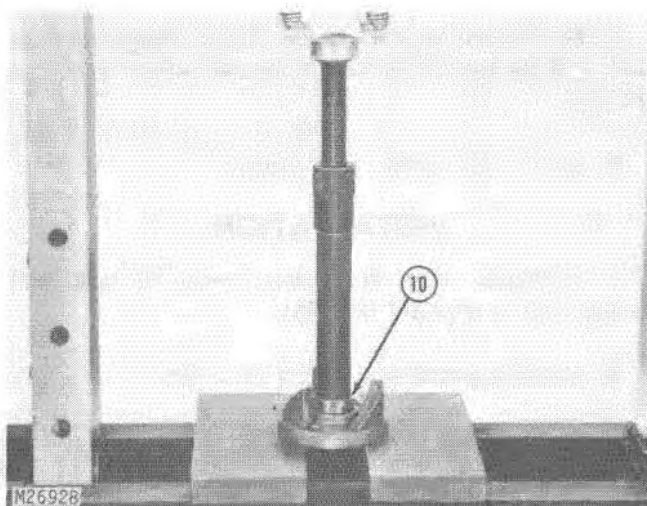

Fig. 9-Installing Cam Bushing
10. Use the same tool to install new bushing flush with top of cam, Fig. 9.